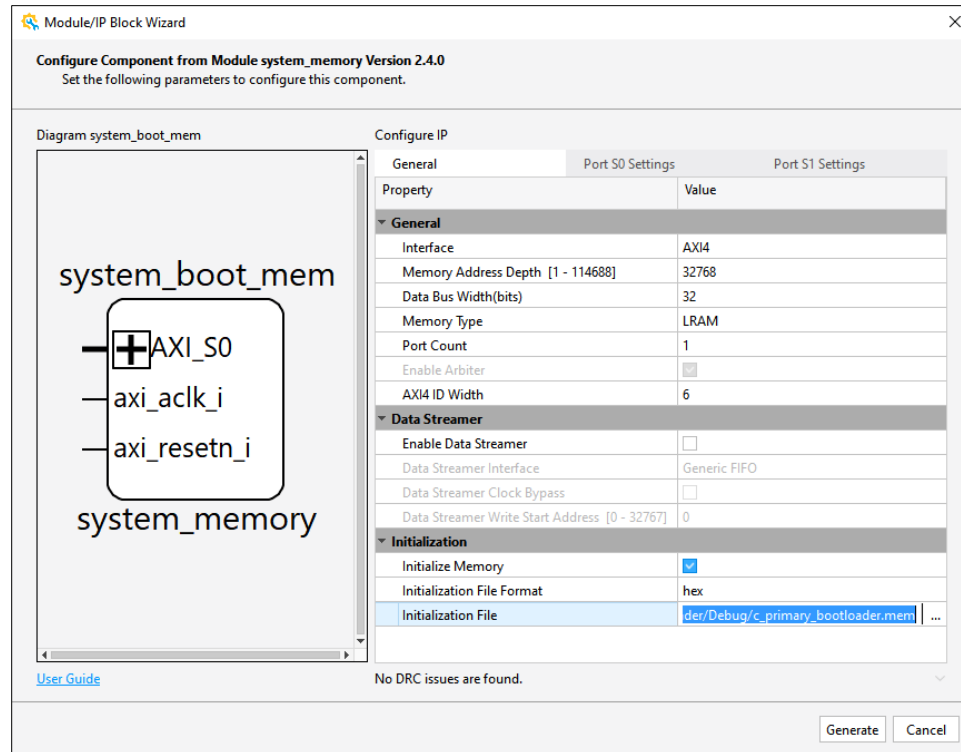

Figure 8.1. Bootloader File Updated in System Memory
- d. Click **Generate** at the bottom-right corner of the **Module/IP Block Wizard** as shown in Figure 8.1.